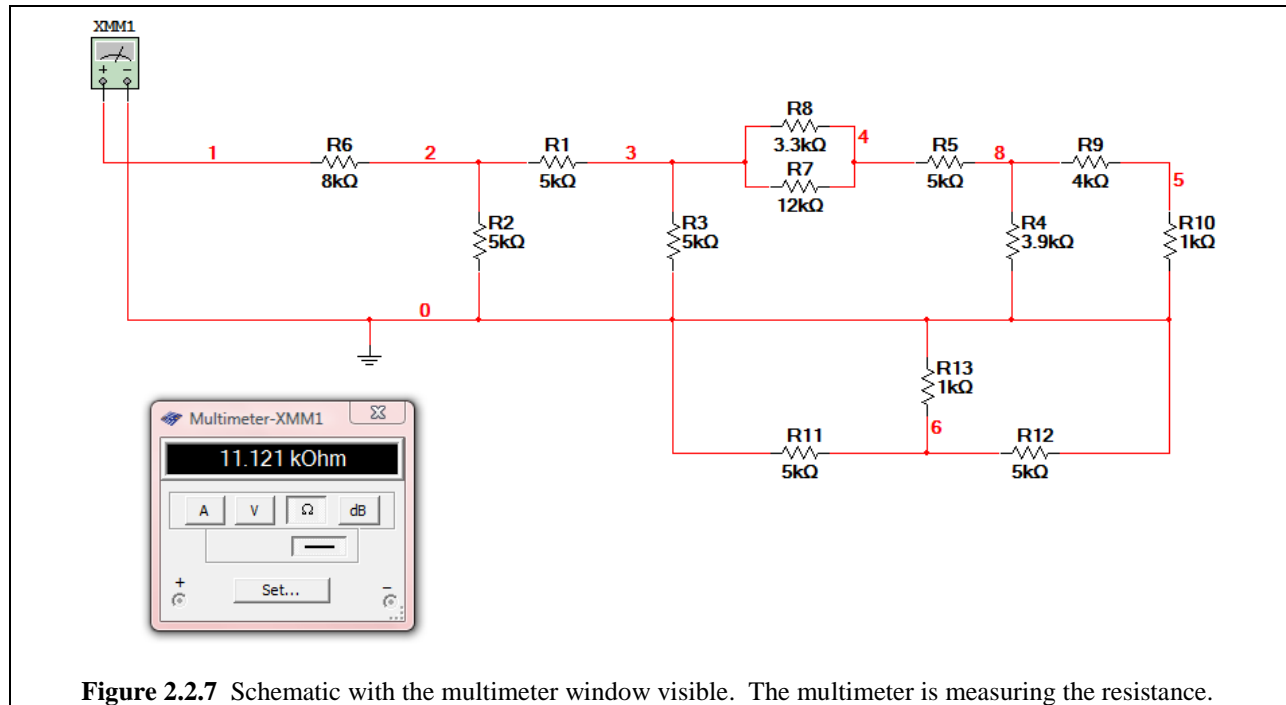

Figure 2.2.7 Schematic with the multimeter window visible. The multimeter is measuring the resistance.
3. Observe the value read out in the Multimeter window, as shown in Figure 2.2.7 on the next page.